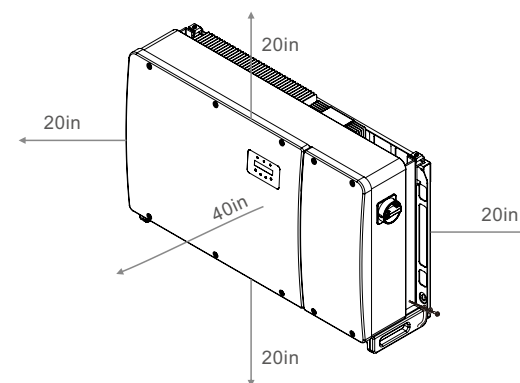

Figure 3.1 Distances required between inverters
- If multiple inverters are installed on site, a minimum clearance of 20in should be kept between each inverter and all other mounted equipment. The bottom of the inverter should be at least 20in above of the ground or floor (see Figure 3.1).